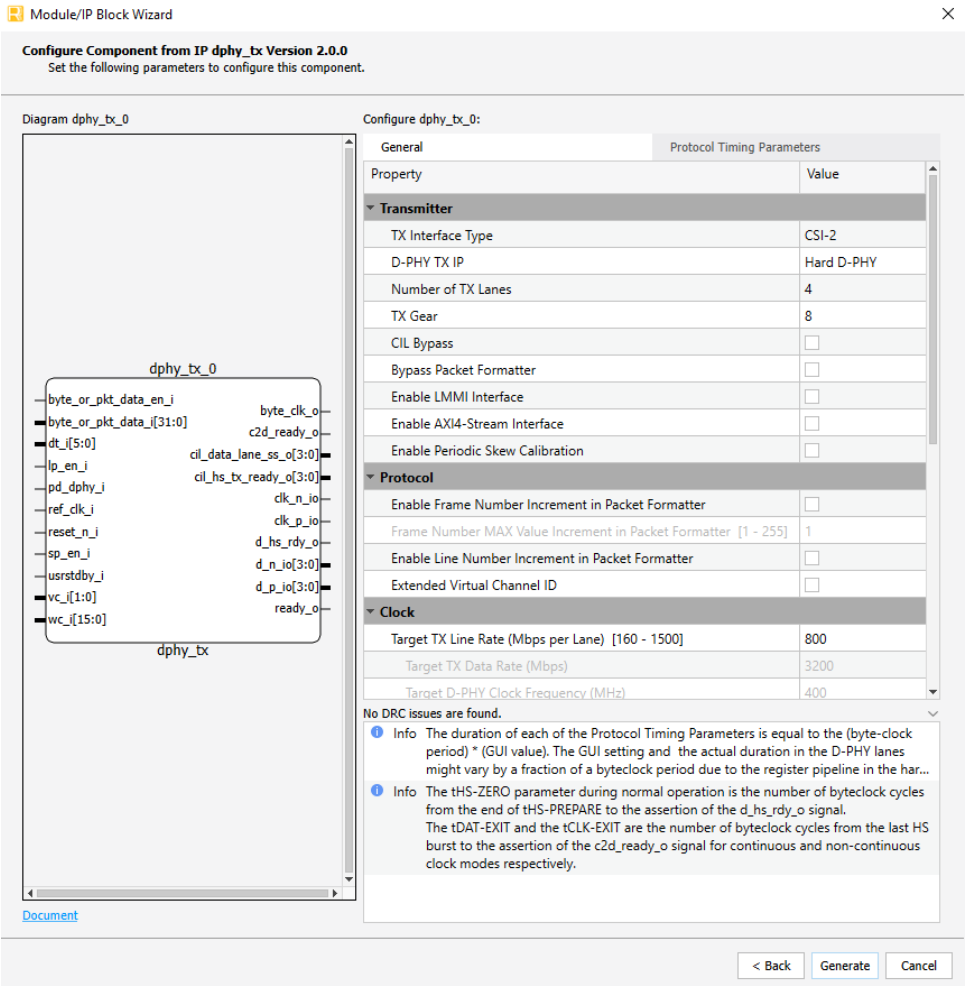

Figure 6.2. IP Configuration
3. In the next **Module/IP Block Wizard** window, customize the selected **CSI-2/DSI D-PHY Transmitter IP** using drop-down lists and check boxes. Figure 6.2 shows an example configuration of the CSI-2/DSI D-PHY Transmitter IP. For details on the configuration options, refer to the IP Parameter Description section.